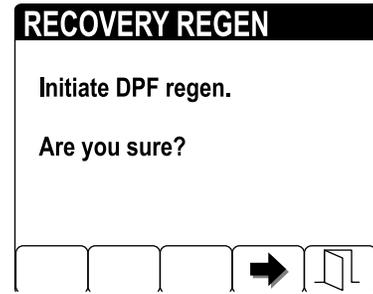

Figure 58
6. At the INITIATE DPF REGEN screen, press the button 4 to continue (Figure 58).